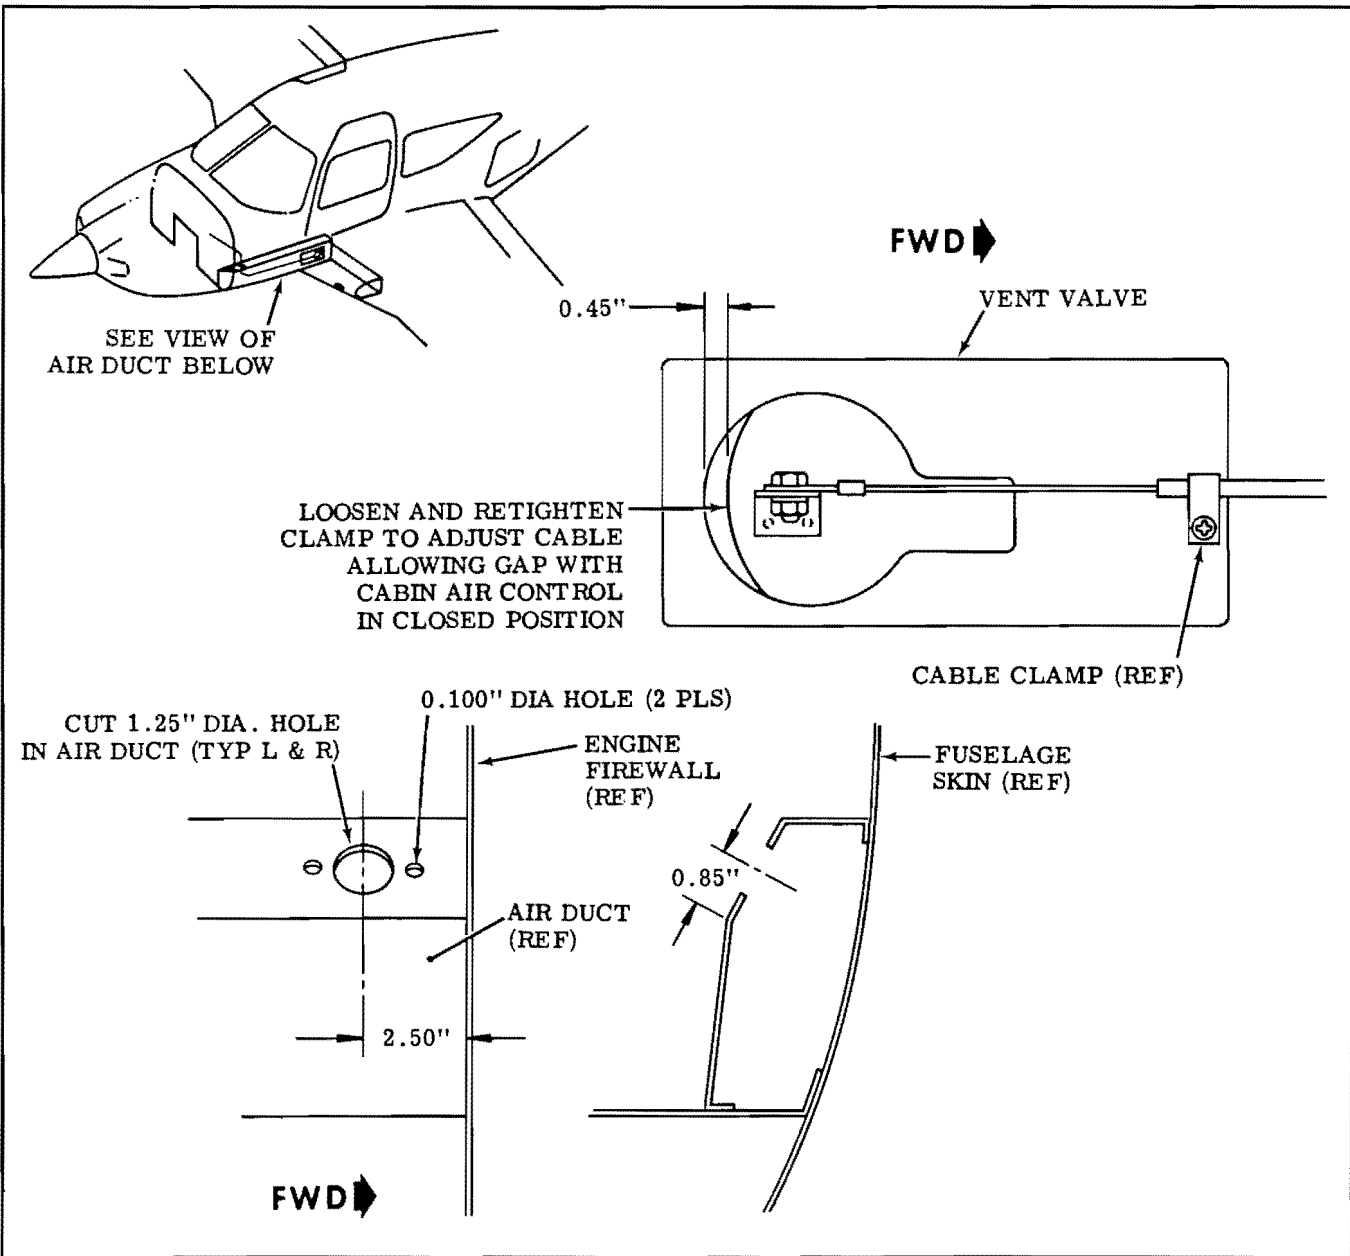

Figure 1.
5. Locate and cut a 1.25-inch diameter hole in left and right air ducts (see Figure 1.).
6. Using 49027-95 escutcheon as a template, locate and drill 0.100-inch diameter hole in left and right air ducts (see Figure 1.).